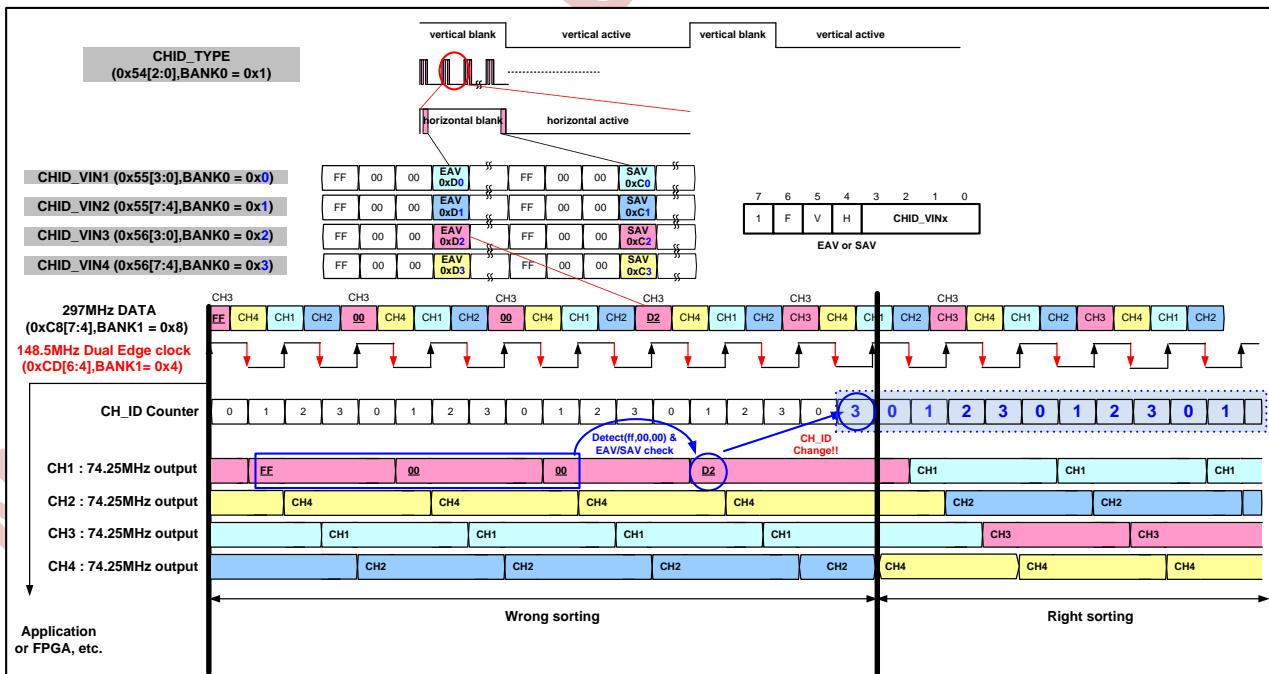

Figure 2.17 NVP6134 Select Channel ID
5. FPGA or equivalent devices which is input 297MHz time multiplexed data output, need to align with same channel data. (74.25MHz 1,2,3,4 channel). Figure2.17. shows how to use Channel ID as a example.
6. CHID_TYPE(BANK0, 0x54[2:0]=001) mode described in top of Figure2.17.
8. Using 2bit digit, Convert from 297MHz Data to 74.25MHz Data (Wrong sorting part in Figure2.17.) and then Define the 2bit digit (0 : Ch1 data, 1 : Ch2 data, 2 : Ch3 data, 3 : Ch4 data).
9. For mapping between separated each channel data and specified counter value, Select channel among separated each channel (1CH selected in Figure2.17.). If selected channel data become Right sorting condition, other 3 channel is sorted automatically.
11. If the EAV/SAV[3:0] is '2', make a counter reset to '3' (Refer to Blue color in Figure2.17.)